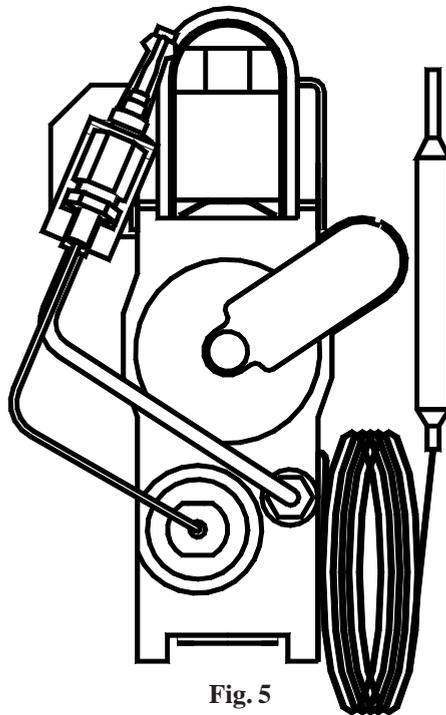

Fig. 5
- 7.3.9 Refitment or replacement is in reverse order, ensuring that the thermocouple connection at the Multifunctional Control is not overtightened (finger tight + ¼ turn only), and the relationship between the pilot assembly and the Main burner is as shown in Fig. 5.
- 7.4.5 Refitment or replacement is in reverse order, ensuring that the main burner is screwed in as close as possible to the injector shoulder, and the relationship between the pilot assembly and the Main burner is as shown in fig. 5.